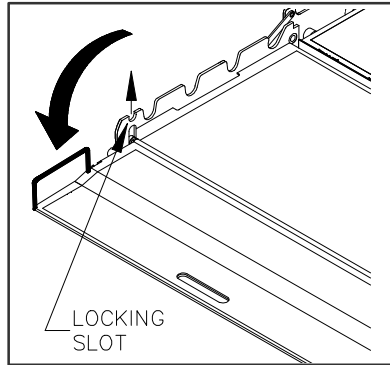

FIGURE 3-7: LOWER OUTER ROLLSTOP
- 1) Refer to **Figure 3-7**. Grasp rollstop handle and lift outer rollstop out of locking slots (about an inch). Lower to ground.